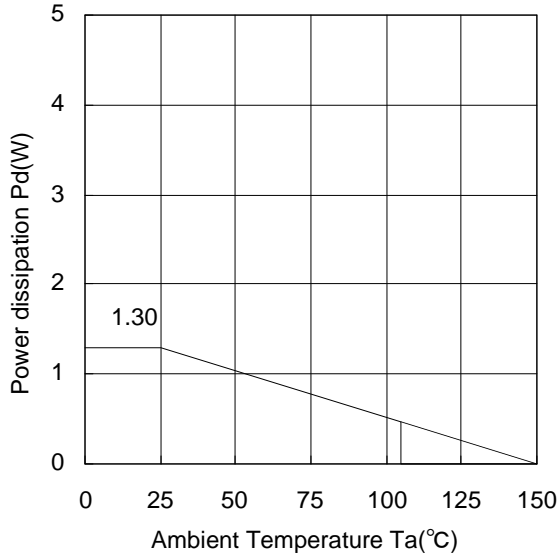
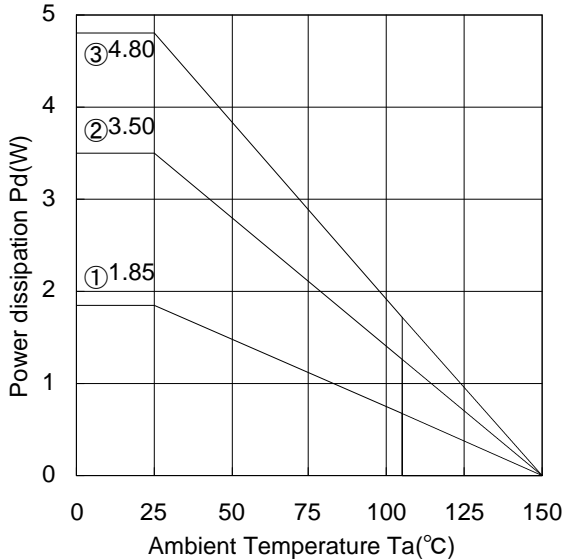
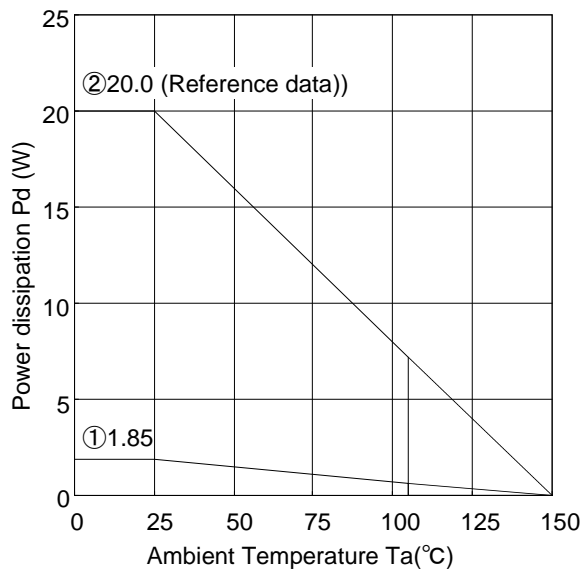

Figure 19.
Figure 20.
Figure 21.
When operating at temperature more than  $T_a=25^{\circ}\text{C}$ , please refer to the power dissipation characteristic curve shown in Figure 19 to Figure 21.
Figure 19 to Figure 21 show the acceptable power dissipation characteristic curves of TO252-5 package and TO220CP-V5 package. Even when the ambient temperature ( $T_a$ ) is at normal temperature ( $25^{\circ}\text{C}$ ), the chip junction temperature ( $T_j$ ) may be quite high so please operate the IC at temperatures less than the acceptable power dissipation.
The calculation method for power consumption  $P_c(W)$  is as follows : (Figure 20③ and Figure 21)
$$I_O \leq \frac{2.496 - 10 \times I_b}{5} \quad \left[ \begin{array}{l} \text{Figure 20③: } \theta_{ja}=26.0^{\circ}\text{C/W} \rightarrow -38.4\text{mW}/^{\circ}\text{C} \\ 25^{\circ}\text{C}=4.80\text{W} \rightarrow 85^{\circ}\text{C}=2.496\text{W} \end{array} \right]$$
$$I_O \leq \frac{10.4 - 25 \times I_b}{20} \quad \left[ \begin{array}{l} \text{Figure 21 (Aluminium heat dissipation board) } \theta_{ja}=6.3^{\circ}\text{C/W} \rightarrow -160\text{mW}/^{\circ}\text{C} \\ 25^{\circ}\text{C}=20\text{W} \rightarrow 85^{\circ}\text{C}=10.4\text{W} \end{array} \right]$$